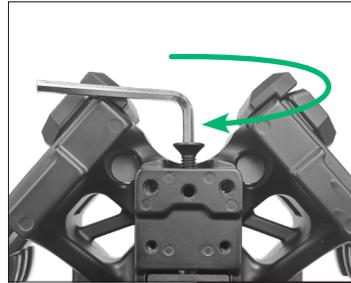

FIGURE 3
- 6** Install and tighten the riser bolt (Part F) using the large hex wrench (Part H). As you tighten the bolt, the limbs and riser assembly should become flush with the joint cap. Tighten the riser bolt all the way down. See Figure 3.